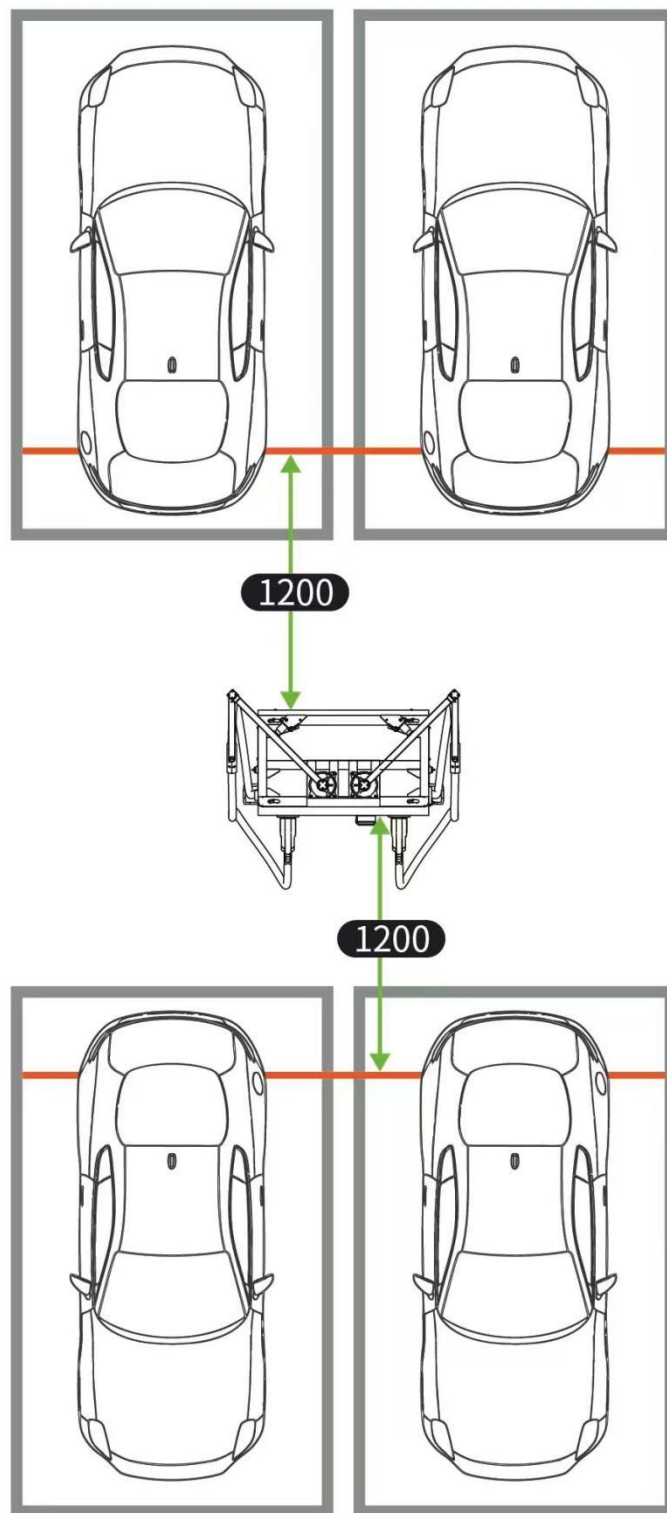

Figure 4 Parking Distance Requirements
When the charging station is installed in the middle of a parking space or between back-to-back parking spaces, it is recommended to leave a 1200mm gap between the wheel stop and the charging station to facilitate the use of the EVSE, as shown in Figure 4.
- (1) Pay attention to leveling and calibration when pouring the foundation.
- (2) The installed foundation shall be higher than the ground level, and necessary maintenance passages shall be reserved on-site based on the specific space.
- (3) The drainage outlet on the foundation surface shall have a slight slope to prevent water accumulation.
- (4) The foundation shall be filled with C25 concrete.
- (5) A wire outlet hole with a diameter of not less than 200mm shall be reserved on the foundation, and the size shall be adjusted according to the actual wire diameter (as shown in Figure 4).
- (6) After the foundation is completed, use a level to test its flatness.
- (7) Four M12 screws shall be used for pre-embedded fixing; they shall be embedded into the concrete foundation according to the drawing positioning, with 30-40mm of thread exposed above the concrete foundation surface.
- (8) BONDING/GROUNDING INSTRUCTIONS – This unit is to be connected to a bonded/grounded, metal, permanent wiring system; or an equipment-bonding/grounding conductor is to be run with circuit conductors and connected to the equipment-bonding/grounding terminal or lead on the battery charger. Connections to the battery charger shall comply with all local codes and ordinances.